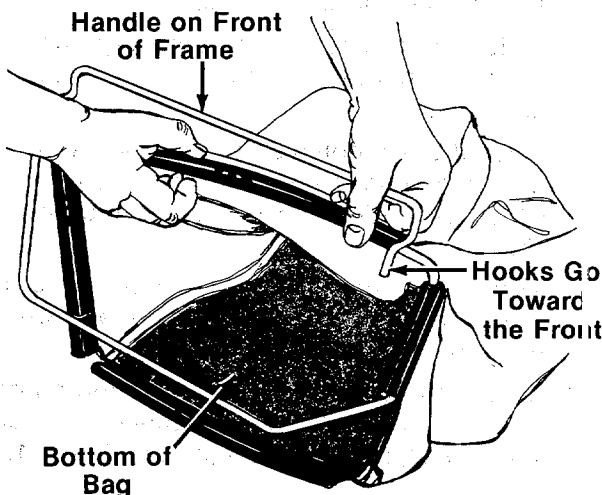

FIGURE 20.
1. Place bag over frame (black plastic side is the bottom of bag). Handle on frame goes to the top of bag. Hooks go toward the front. See figure 20.
2. Secure bag to frame by slipping plastic channels on bag over frame. See figure 20.